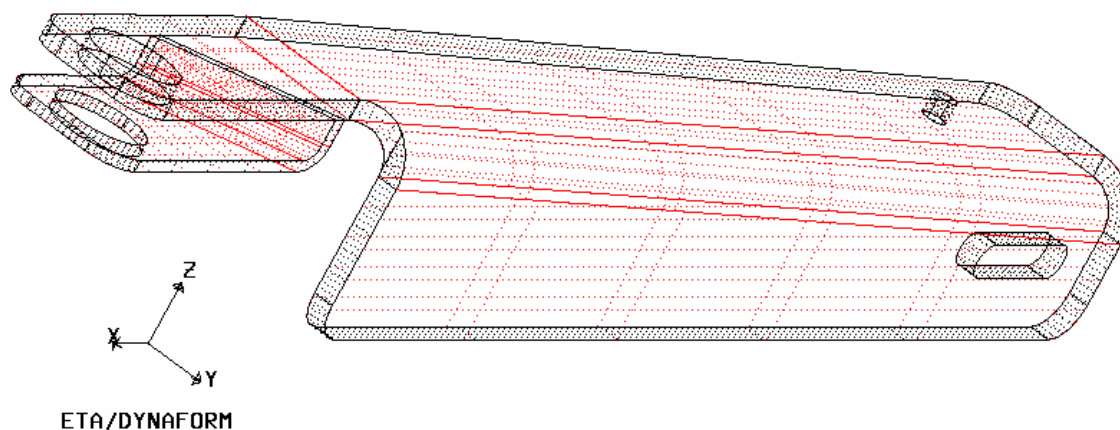

Figure 5.2.10 Add Thick Surfaces
4. ADD THICK SURFACE and REMOVE THICK SURFACES functions are used to add or remove surfaces from the thickness group in case the program does not produce perfect grouping. In this example it is necessary to add surfaces as in Figure 5.2.10.